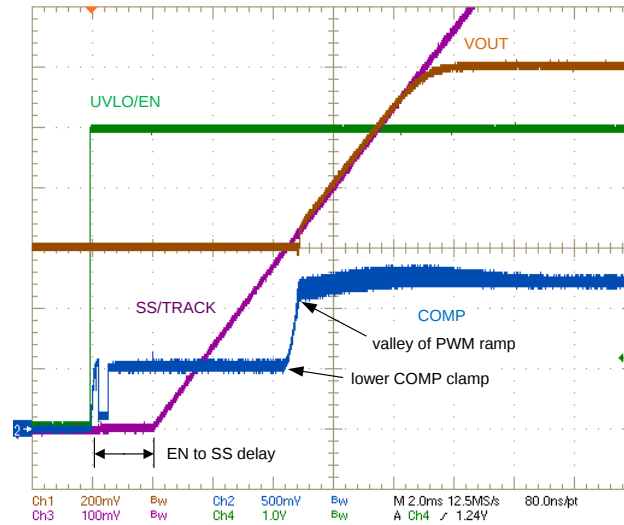

图 36. Typical Startup Waveforms With 0.6-V Prebiased Output, 1.2-V Nominal Output
The LM27403 does not allow switching until the SS/TRACK pin voltage has reached the feedback (FB) voltage level. Once this level is reached, the controller begins to regulate and switch synchronously, allowing a certain amount of negative current during PWM switching operation. Thereafter, the feedback voltage follows the soft-start voltage up to 0.6 V. This is illustrated in 图 36 where nominal output voltage is 1.2 V and the output voltage waveform represents twice the FB level. The output is not pulled low during a prebiased startup condition. Note that if the output is prebiased to a higher voltage than the nominal level (as set by the feedback resistor divider), the LM27403 does not pull the output low, hence eliminating current flow through parasitic paths in the system.